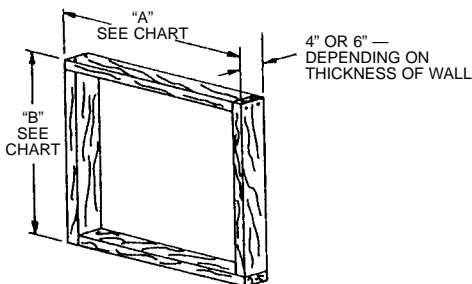

FIG. 1
STEP 3—Construct wood frame as shown in Fig. 1. Use 2" x 4" or 2" x 6" (depending on thickness of wall where unit is to be mounted) framing lumber.